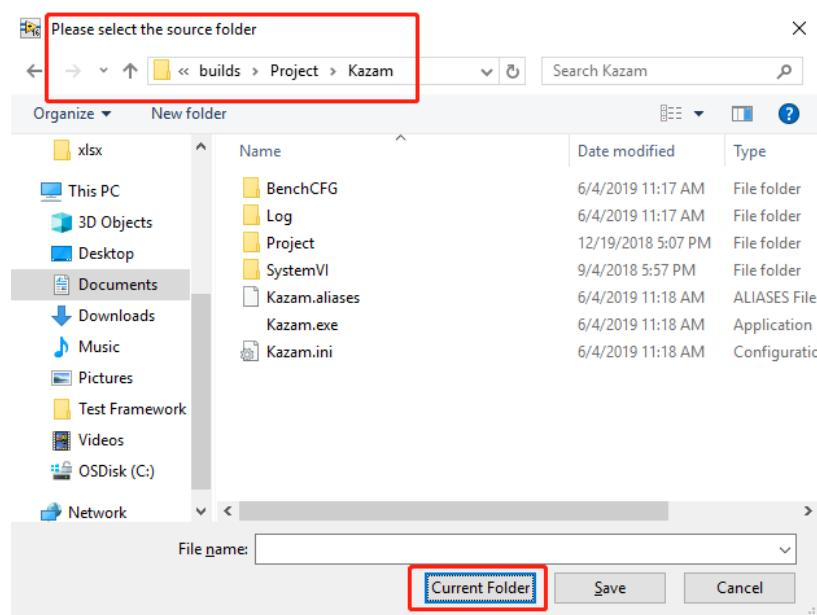

Figure 46
10. Select the source folder, it is the compilation path for the supplier project, as Figure 46